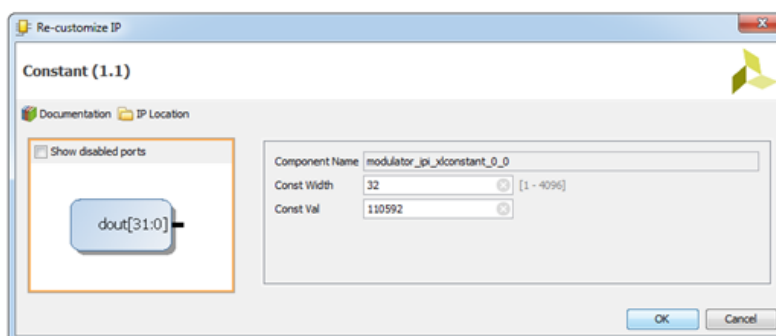

Figure 29. Constant block re-customization dialog box
- 3-2-2.** Double-click on the first **Constant (xlconstant_0)** block and set the **Const Width** value to **32** and **Const Value** value to **110592**, see Figure 29.